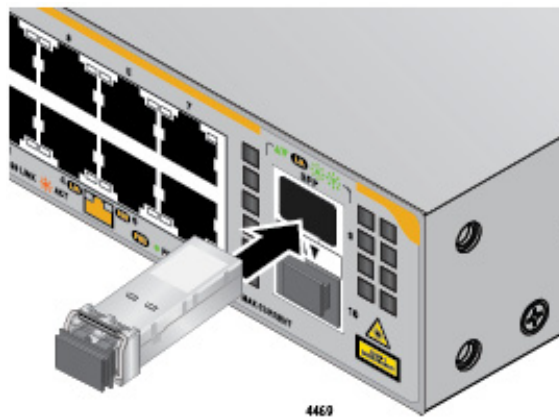

Figure 22. Insert SFP Transceiver into SFP Slot
4. Gently slide the transceiver into the SFP slot until it clicks into place as shown in Figure 22.